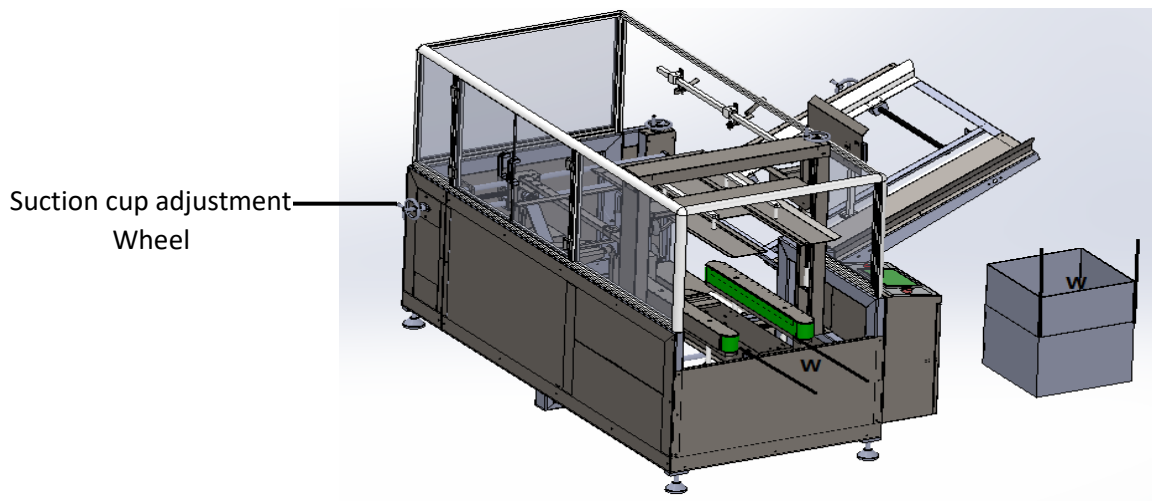
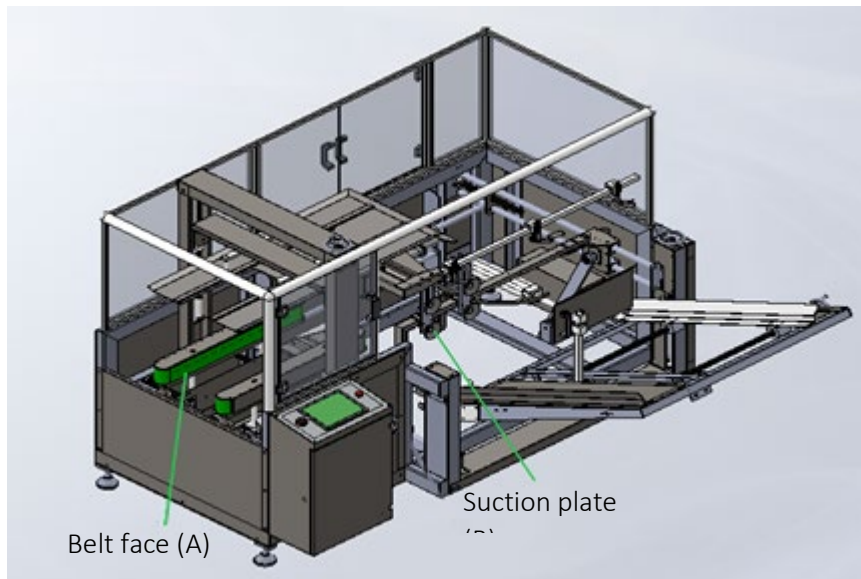

Figure 2
Figure 3.
- 1) Fold a carton to size leaving the flaps on one end open (see Figure 2)
- 4) Next, use the hand wheel in Figure 2 to adjust the suction cup plate, lining it up with the belt face as seen in Figure 3. **The carton push arm will fail to push the case through the machine if this isn't set properly and the case will jam.**